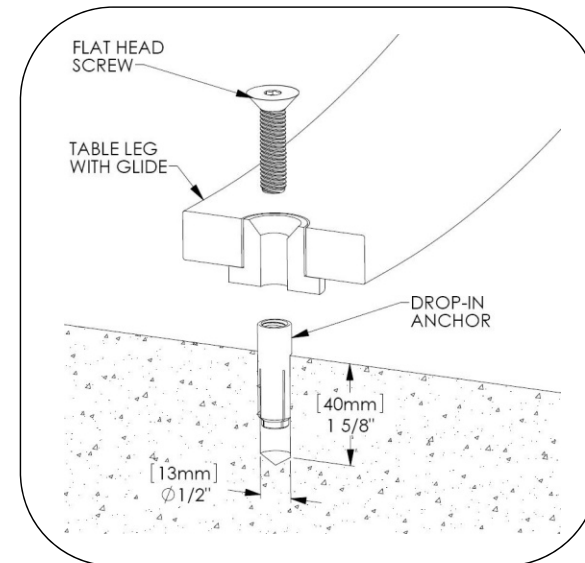

Fig. 1.4
4. Install drop-in anchor as shown in Fig. 1.4. Ensure top of anchor is flush or slightly below concrete surface. Expand with setting tool.